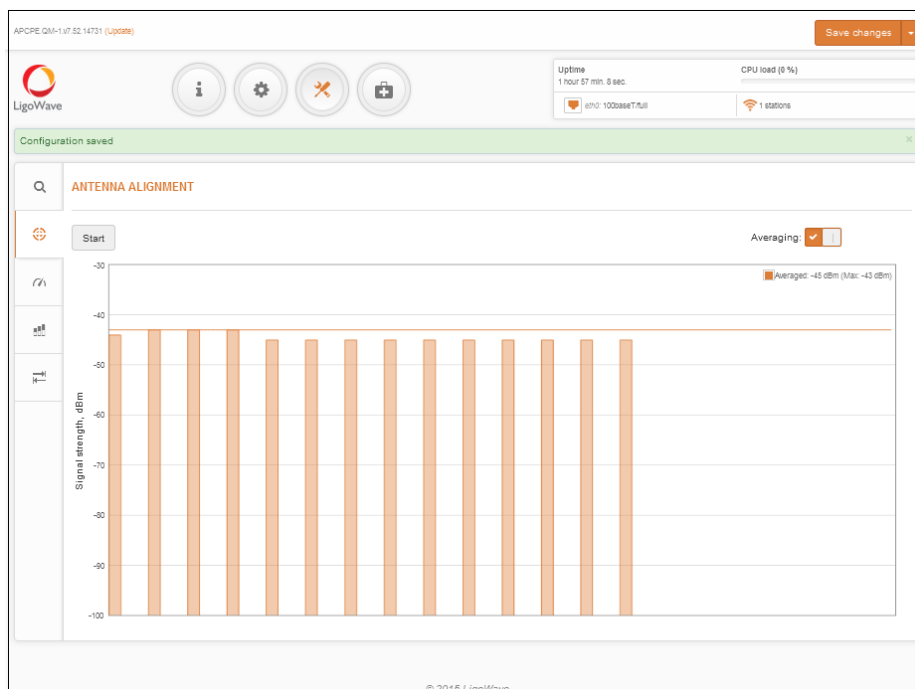

Figure 17 Antenna Alignment
3. In the TOOLS, SITE SURVEY screen, select **Antenna Alignment** . The Antenna Alignment screen will open (see Figure 17).